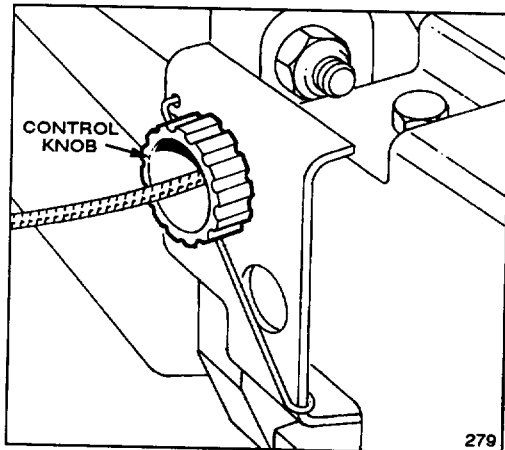

Figure 18
2. **ADJUSTMENT** (Fig. 18)—Rotate control knob clockwise $1/2$ turn if mower does not self-propel. If mower creeps forward, rotate knob $1/2$ turn counterclockwise to loosen belt.